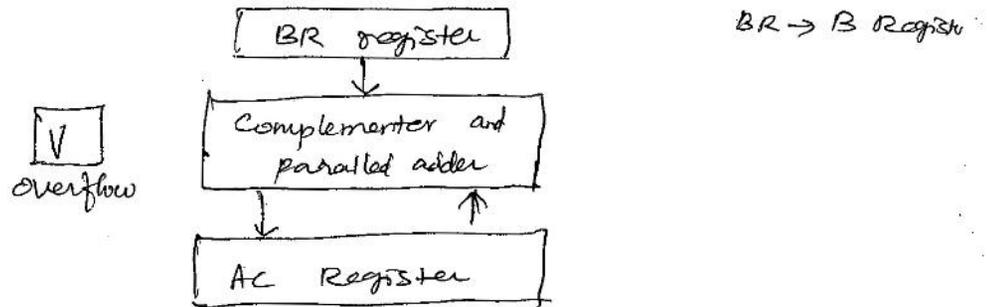

fig. 3.3 - Hardware implementation of 2's Complement addition & subtraction.
- * The hardware implementation is given in fig. 3.3